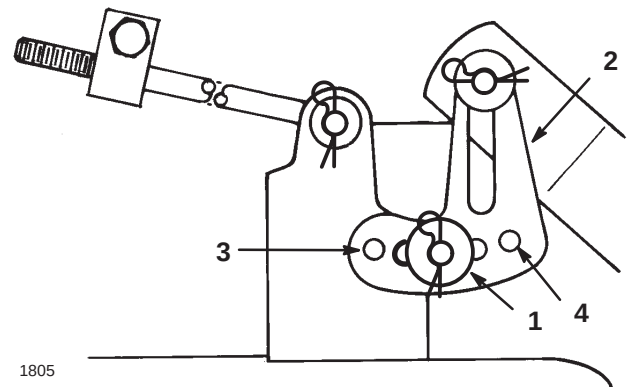

Figure 12
4. Remove the hairpin cotter and washer from the leveling bracket (Fig. 12). To level the blade(s), reposition the leveling bracket in a different hole and install the washer and hairpin cotter. (Fig. 12). A front hole lowers the blade height and a rear hole raises its height. Adjust both sides as required.